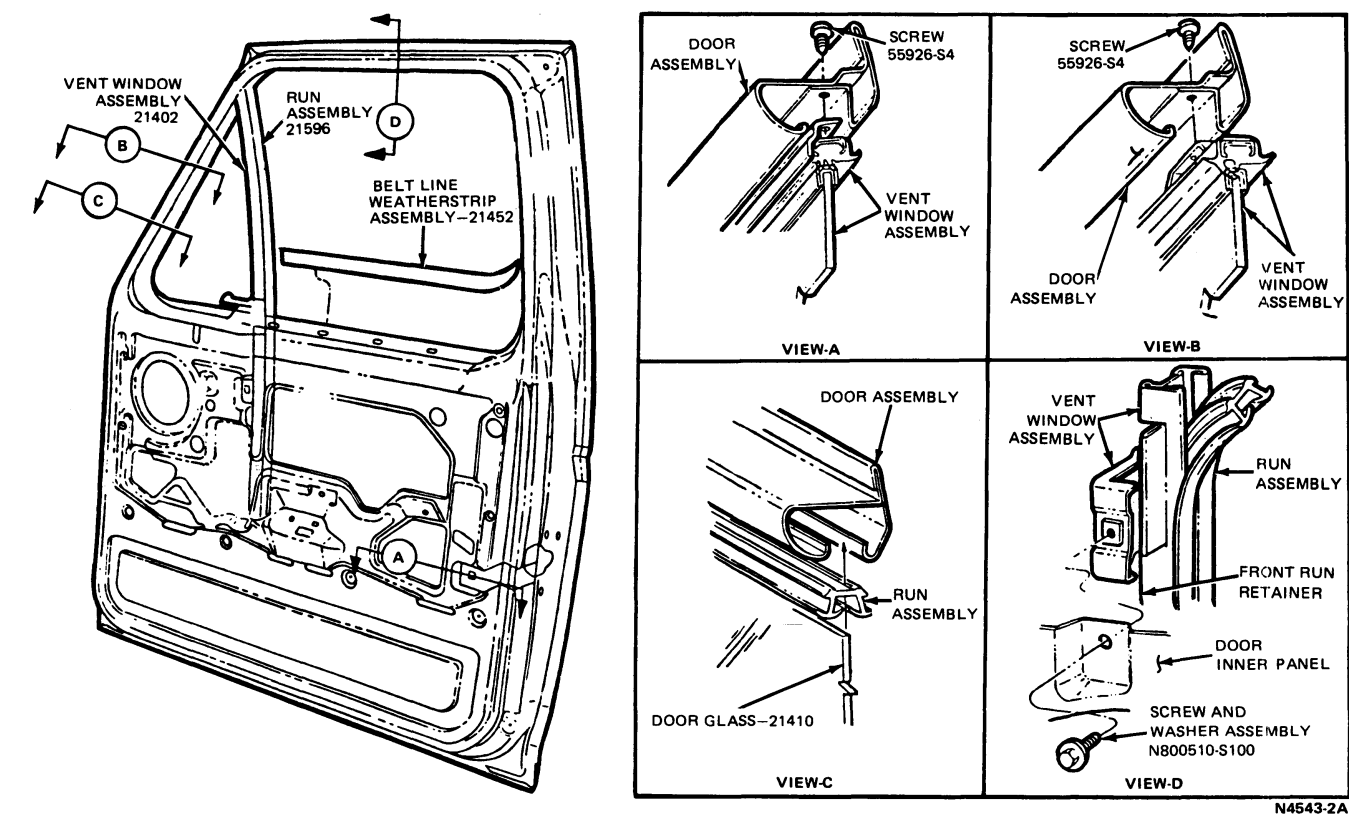

FIG. 3 Front Door Window Glass—F-Series and Bronco
- Remove the screw that retains the division bar to the door inner panel (Fig. 3, View D).
- Position the vent window and division bar assembly into the door and to the glass edge (Fig. 3).